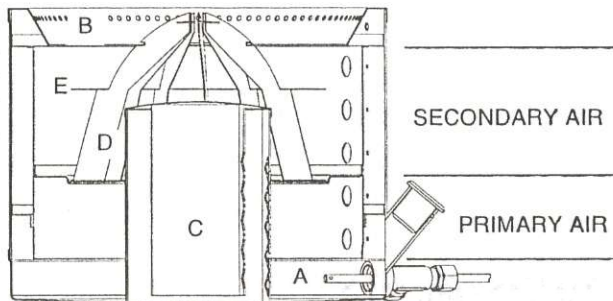

Figure 13
1. Through the open door, remove the catalyser components (# C, # D and # E, figure 13) from the burner.
Light with a long taper or wadded piece of paper. Immediately replace the catalyser components (figure 13). Ensure that the top is centred.
Remove all three catalyser components (figure 13). Remove any carbon residue and remaining oil from the burner using a slightly damp cloth. Buff dry before reinstalling.